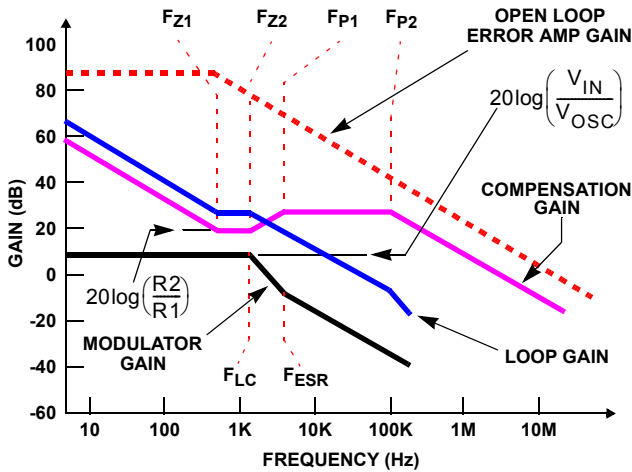

FIGURE 8. ASYMPTOTIC BODE PLOT OF CONVERTER GAIN
Figure 8 shows an asymptotic plot of the DC-DC converter's gain vs frequency. The actual Modulator Gain has a high gain peak due to the high Q factor of the output filter and is not shown in Figure 8. Using the above guidelines should give a Compensation Gain similar to the curve plotted. The open loop error amplifier gain bounds the compensation gain. Check the compensation gain at  $F_{P2}$  with the capabilities of the error amplifier. The Closed Loop Gain is constructed on the graph of Figure 8 by adding the Modulator Gain (in dB) to the Compensation Gain (in dB). This is equivalent to multiplying the modulator transfer function to the compensation transfer function and plotting the gain. The compensation gain uses external impedance networks  $Z_{FB}$  and  $Z_{IN}$  to provide a stable, high bandwidth (BW) overall loop. A stable control loop has a gain crossing with  $-20dB/decade$  slope and a phase margin greater than 45 degrees. Include worst-case component variations when determining phase margin.